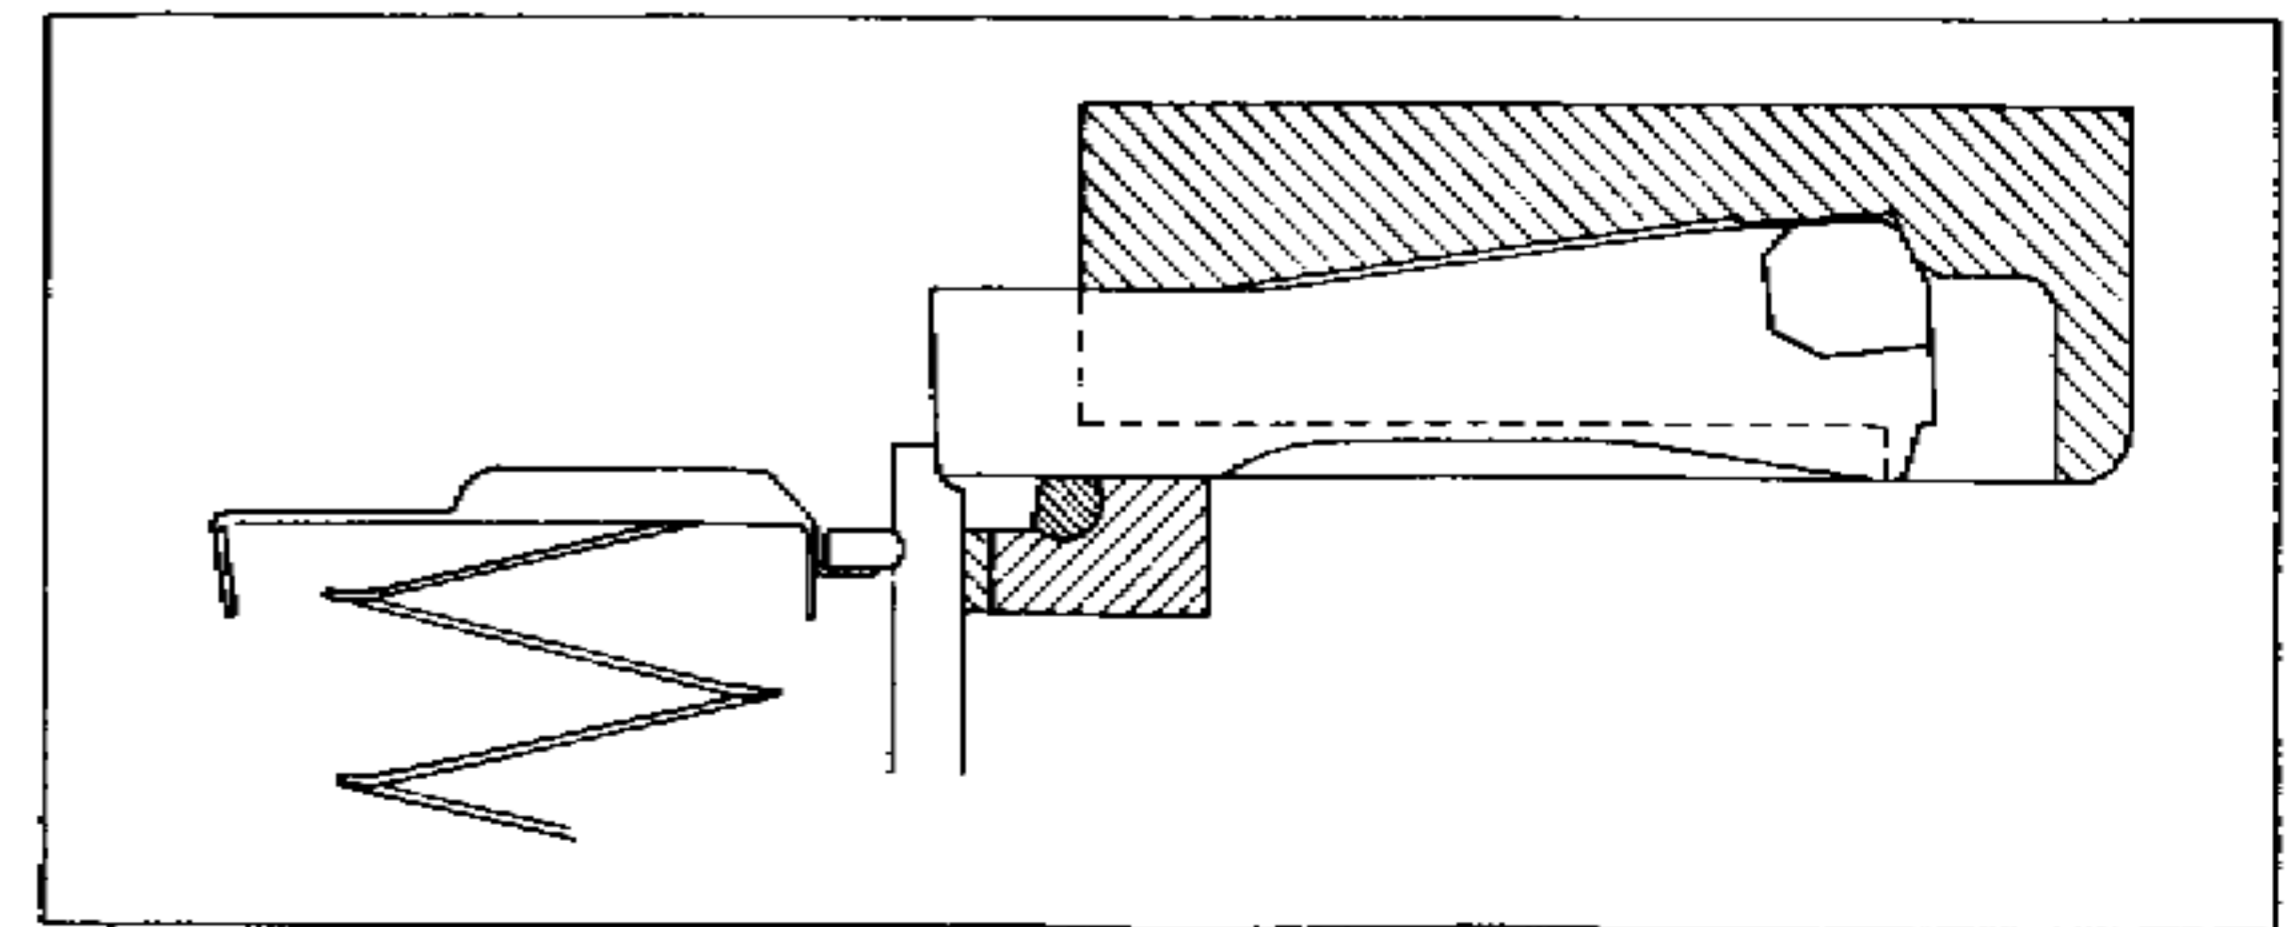

Fig. 13
- After recoil of the moving parts, the platform rises under action of the magazine spring and raises the holding open device (fig. 13) until it moves up into the body and checks the forward movement of the working parts.